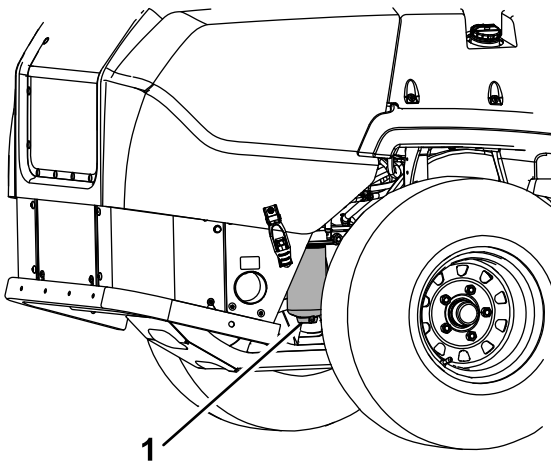

Figure 46
4. Open the drain plug on the water separator approximately 1 turn to allow water and other contaminants to drain (Figure 46).